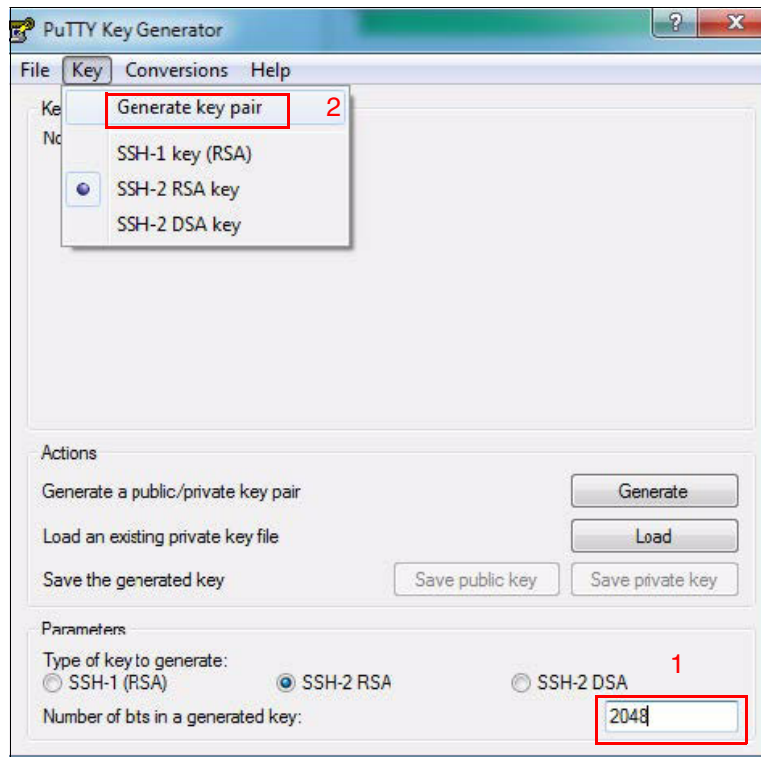

Figure A-1 Generate key pair
Before generating key pairs, the number of bits in a generated key can be adjusted (1), then the key pair generation can be started by using the **Generate key pair function** (2), as shown in Figure A-1.